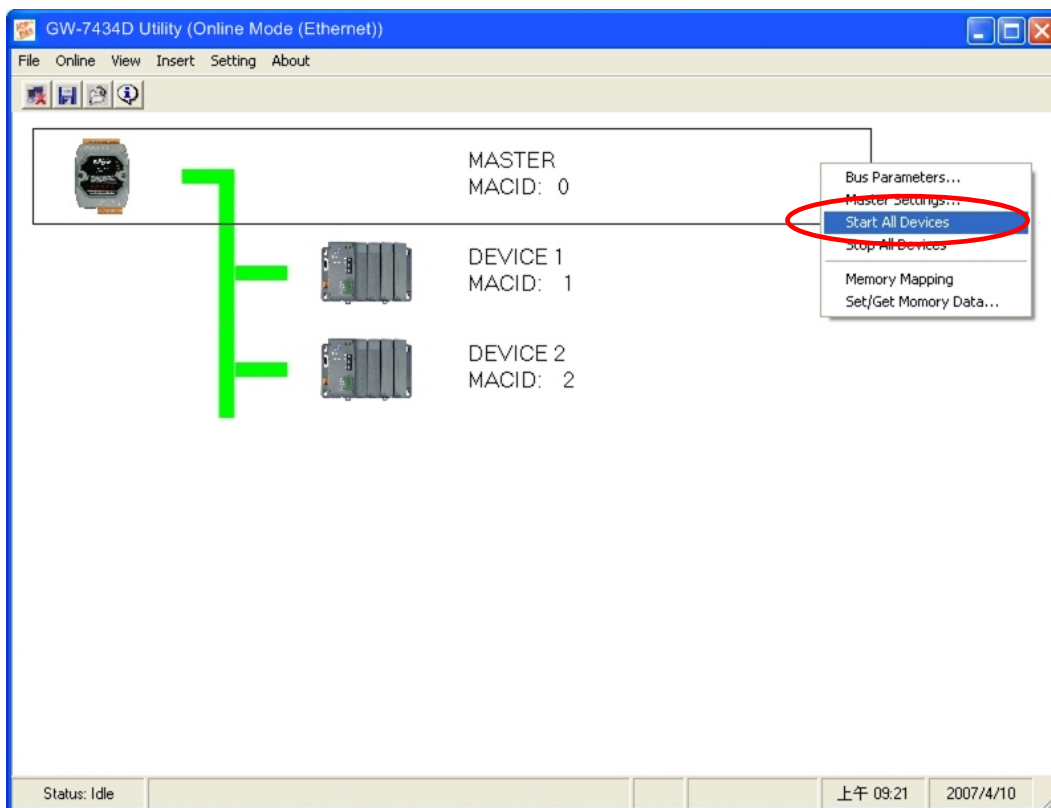

Figure 5-25: Start/stop communicating with all DeviceNet devices
2. By Clicking left of the mouse button on master frame, GW-7434D, you can start or stop communicating with all DeviceNet devices. Select the “Setting” item on the menu bar, or click right of the mouse button on the master frame, then click the “Start All Devices” item or “Stop All Device”. Then the GW-7434D will start/stop communicating with all DeviceNet devices. As shown in figure 5-25.